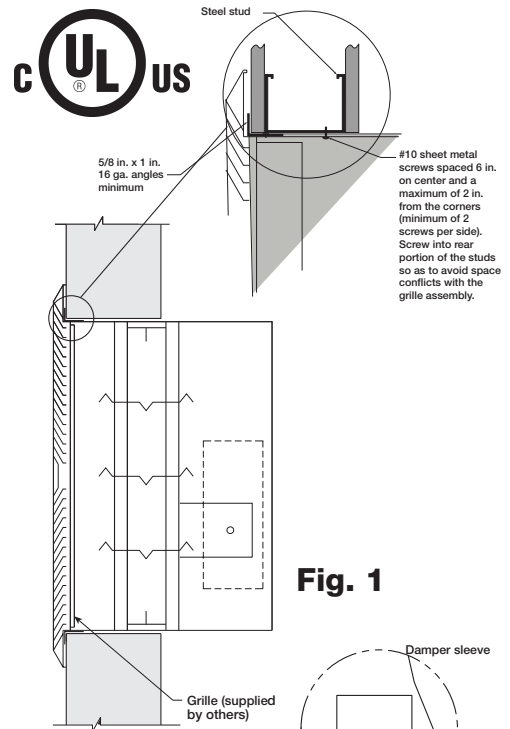

Fig. 1
- Flange on front (grille end) of sleeve must be a minimum of 16 ga. (1.6mm) steel and have a 5/8 in. minimum flange leg. Using #10 sheet metal screws, screw from inside of sleeve through the rear portion of the studs (as shown in **Figure 1**). Space screws a maximum of 6 in. (152mm) on center and a maximum of 2 in. (51mm) from the corners (minimum of two screws per side). No retaining angles are required on the side of wall opposite from the grille.